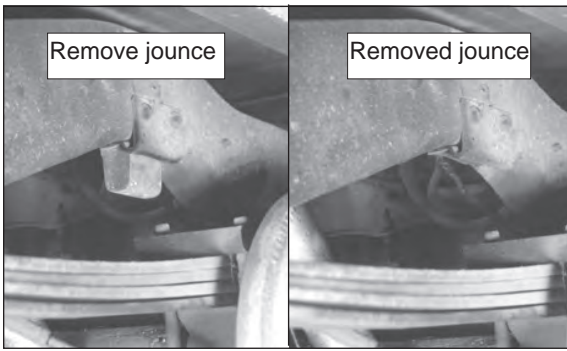

Figure 8
1. Unbolt and remove the rubber jounce bumper from the frame rail and discard (Figure 8).